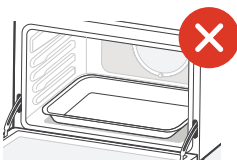

Figure 2.2
- **Do not** put the sheet tray on ceramic burner directly. [Figure 2.2]